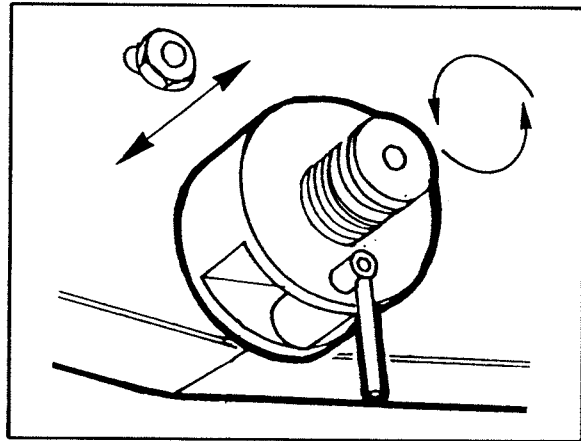

FIGURE 14
2) Tape Web Alignment - Refer to figure 14